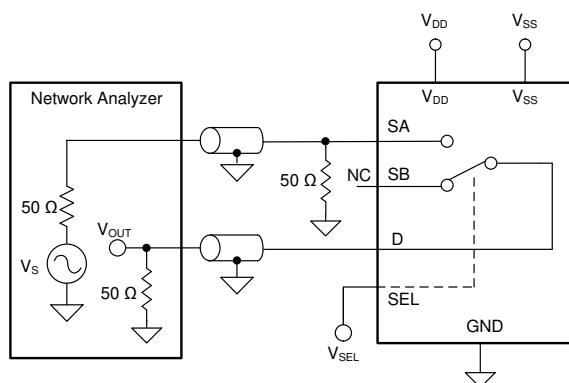

Figure 7-7. Off Isolation Measurement Setup
Off isolation is defined as the voltage at the drain pin (D) of the TMUX6136 when a 1- V_{RMS} signal is applied to the source pin (Sx) of an off-channel. Figure 7-7 shows the setup used to measure off isolation. Use Equation 2 to compute off isolation.